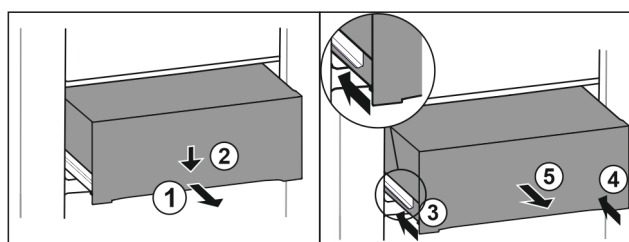

Fig. 185
- Pull out drawer half-way. Fig. 185 (1)
- Push the drawer down at the front. Fig. 185 (2)
- Push the left rail in by about 2 cm. Fig. 185 (3)
- Push the right rail in by about 2 cm. Fig. 185 (4)
- Remove drawer to the front. Fig. 185 (5)